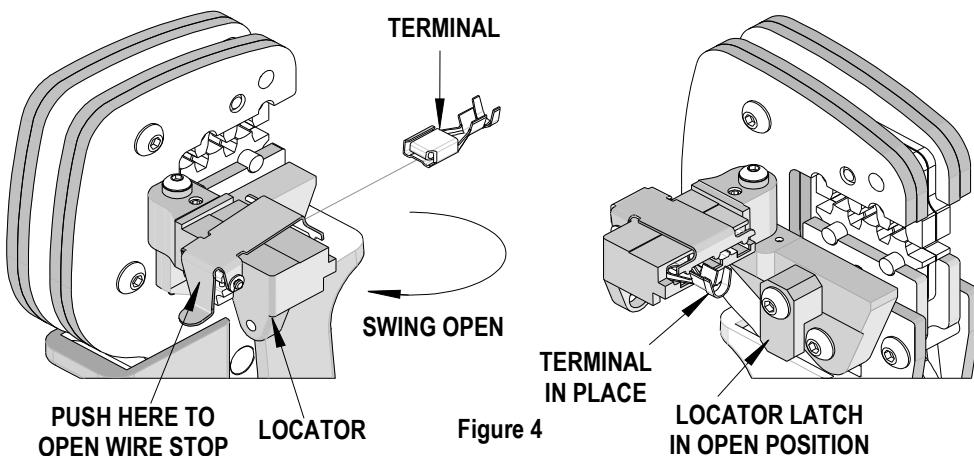

Figure 4
3. Swing the terminal locator away from the crimp tool as shown in Figure 4.